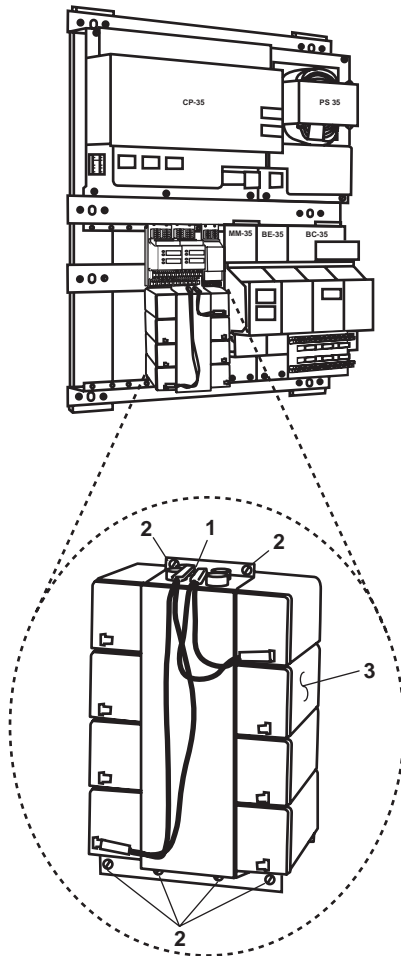

Figure 7. Battery Pack BT-34 Replacement
2. Label and disconnect the electrical wiring from the terminal block (figure 7, item 1).
3. Remove the six screws (figure 7, item 2) that secure the battery pack BT-34 (figure 7, item 3), and remove it from the enclosure.
1. Position the battery pack (figure 7, item 3) in the enclosure and secure it in place with the six screws (figure 7, item 2).
2. Connect the electrical wiring to the terminal block (figure 7, item 1) using the labels from step 2 of Removal as a guide. Remove the labels.